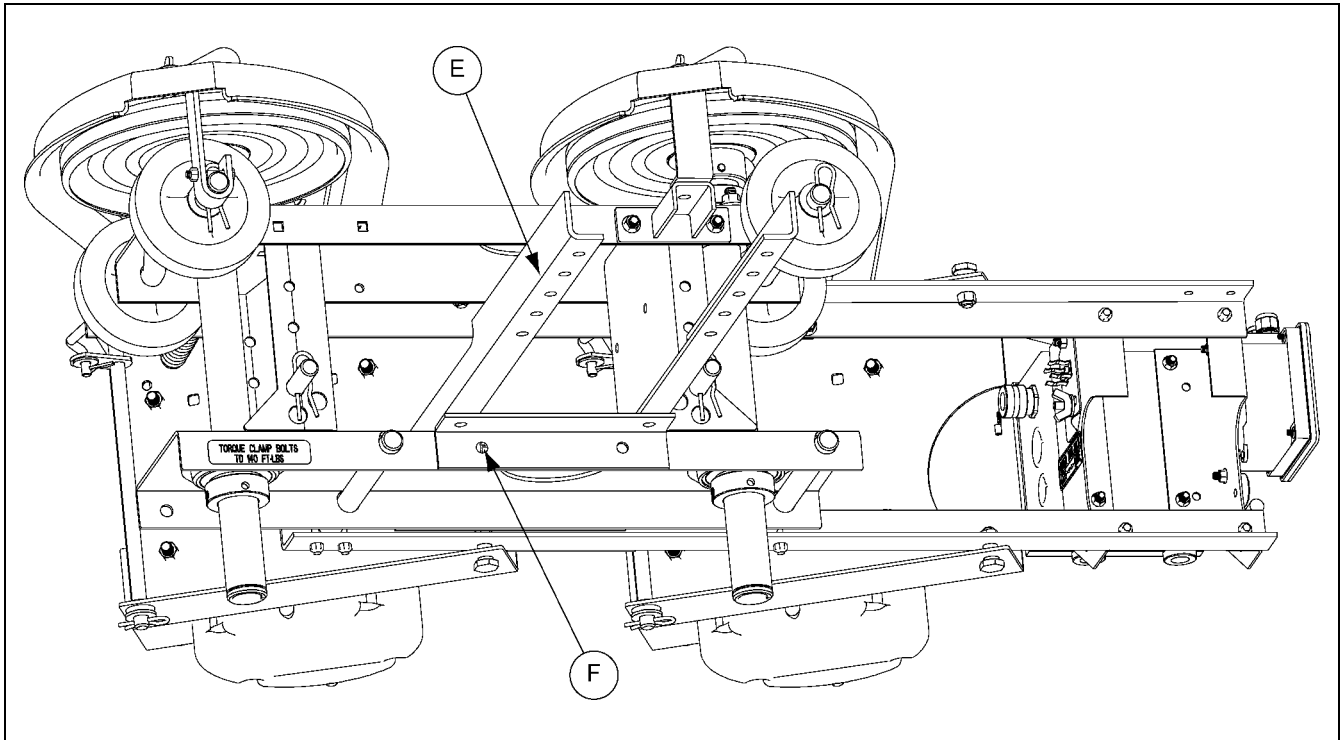

Figure 3
1. Drill four (4) 1/2" holes into the side flanges of the trolley frame, two (2) holes per flange (F). Locate the holes 5" apart. *(See Figure 3.)* **NOTE:** You may use the lower angle brackets as a template.